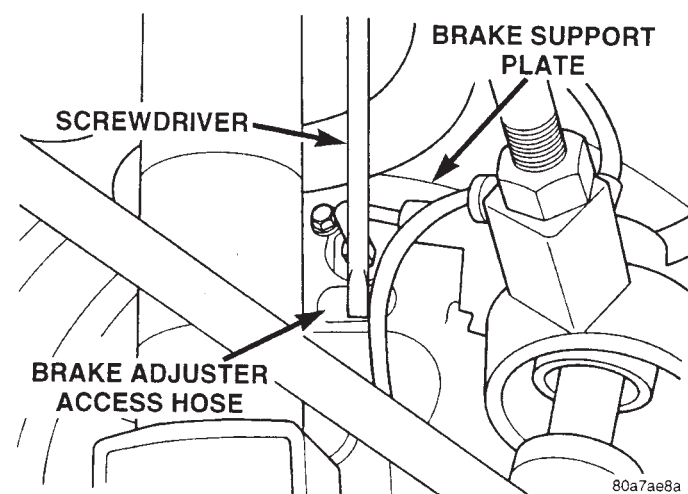

**Fig. 170 Rear Brake Shoe Adjustment**
(3) Be sure parking brake lever is fully released.
(4) Insert a thin screwdriver through the adjuster access hole in the brake support plate (Fig. 170). Engage the tip of the screwdriver with the star wheel on the automatic adjuster. Move the handle of the screwdriver downward (toward the ground). Repeat the above procedure until drag is felt when rear wheel is rotated.